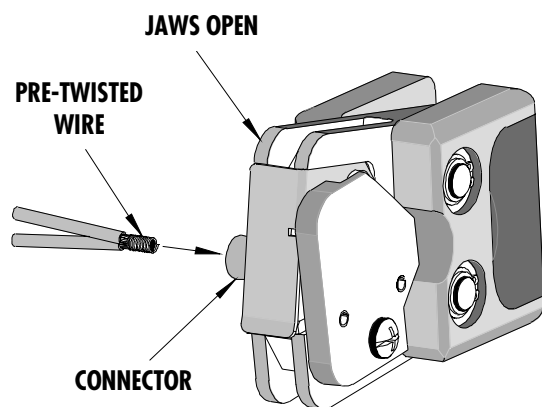

Figure 2
2. Place pre-twisted wire into closed-end connector. Then press lever on air tool (See Figure 2 and 3). Release after jaws have closed.